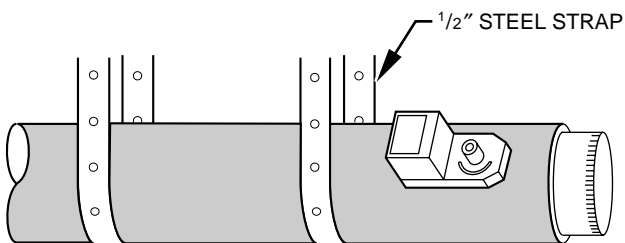

Fig. 2 — Insulated Round Metal Duct Work
4. If dampers are applied in an unconditioned space, insulate damper using 1-1/2 inch to 2 inch insulation (See Fig. 2).